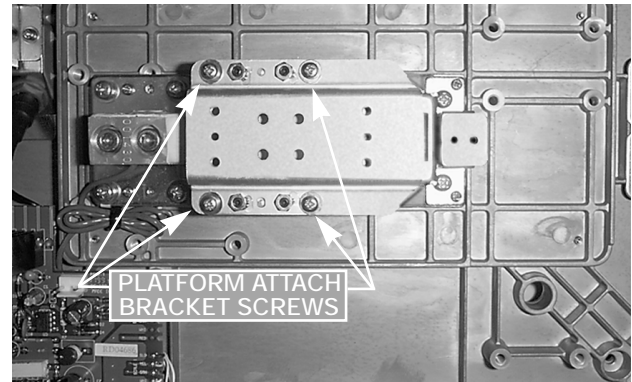

Figure 2-12. Remove Platform Attach Bracket
6. Remove four machine screws securing the platform attach bracket (Figure 2-12) to the load cell bracket. Remove platform attach bracket.